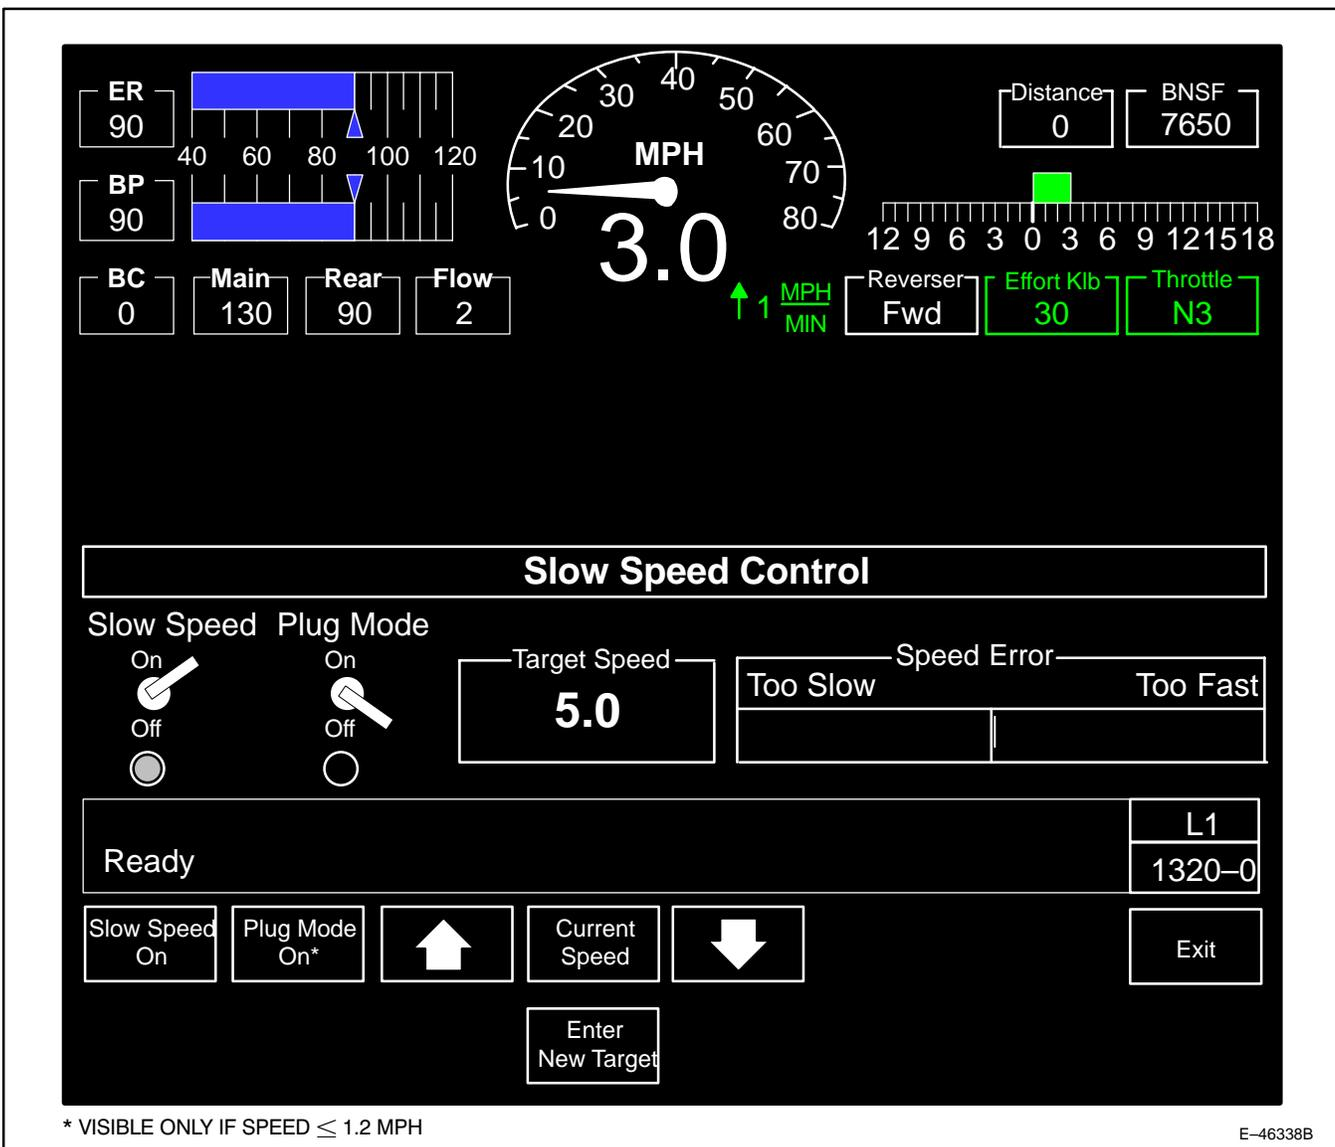

Figure 55. Slow Speed Control Setup Screen (1320-0).
2. Pressing key position F6 (**Slow Speed**) will display screen 1320-0 (Figure 55). Eleven keys are available on this screen as follows:
3. On screen 1320-0 (Figure 55) press key position F1 (**Slow Speed On**) and key position F2 (**Plug Mode On**) to turn both Slow Speed and Plug Loading ON. Status is indicated by the switch and LED above each key position.